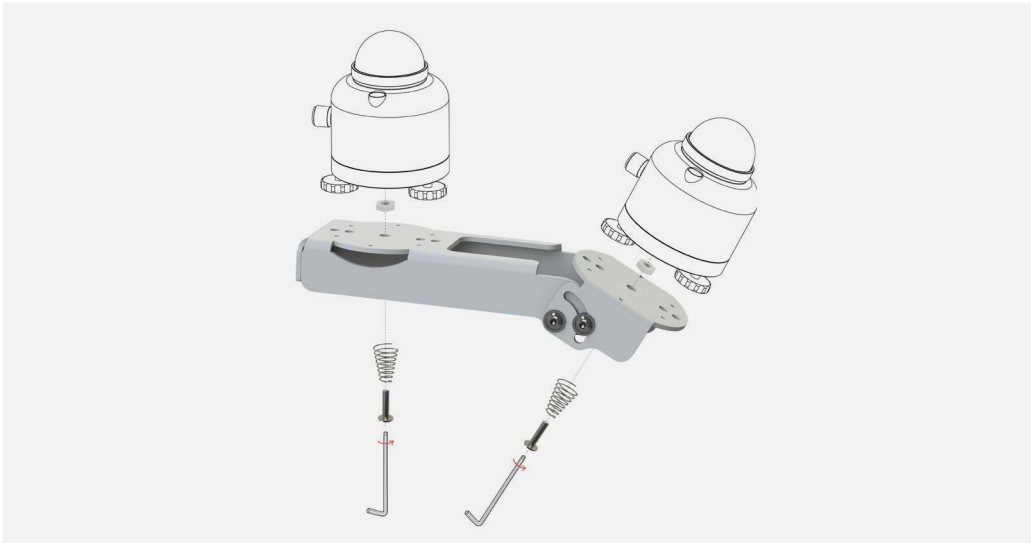

Figure 4.2.2 Installation of two pyranometers on PMF02 using the central spring-loaded bolts, step 3a.
- 3a. Install the two sensors using the spring-loaded bolts: Attach the M6x25 bolt with the spring to the bracket and lock it using the M6 nut. Put the sensor onto the bolt, place the sensor feet in the designated holes. Turn the bolt further into the sensor bottom plate by using a 4 mm hex key. See Figure 4.2.2.